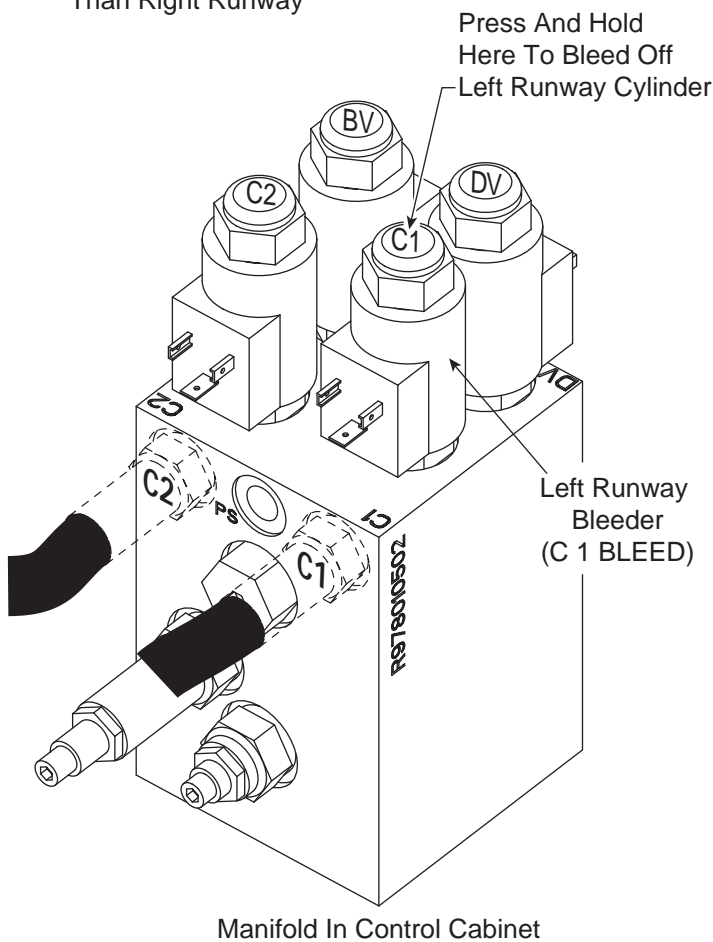

Fig. 17
**IMPORTANT** During the initial install of these runways it's important to know that one runway may rise faster than the other. This is because the runways have not yet been calibrated. You can control the rise of each runway by bleeding off flow to the cylinders in the runways. This is done manually by pushing the bleeder buttons located on top of the manifold in the control cabinet Figs 17 & 17a.
**Example 1:** If the left runway is rising faster than the right runway press and hold the bleeder button marked (C 1 Bleed) Fig. 17. This will allow the right runway to catch up. When both runways appear to be rising evenly release the bleeder button. The bleeder button can be pressed as needed to keep runways rising evenly.